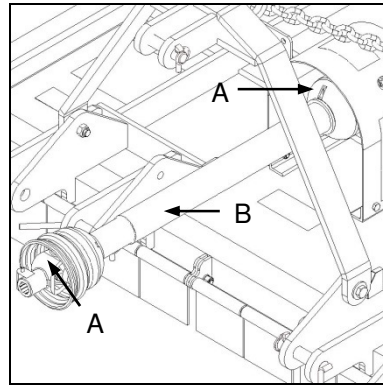

Fig. 5
- ✔ Apply grease to the universal joints (Fig. 5-A) and telescopic tubes (Fig. 5-B) of the PTO drive shaft.
- ✔ Ghries die kruiskoppelings (Fig. 5-A) en teleskopiese buise (Fig. 5-B) van die kragtakkeras.